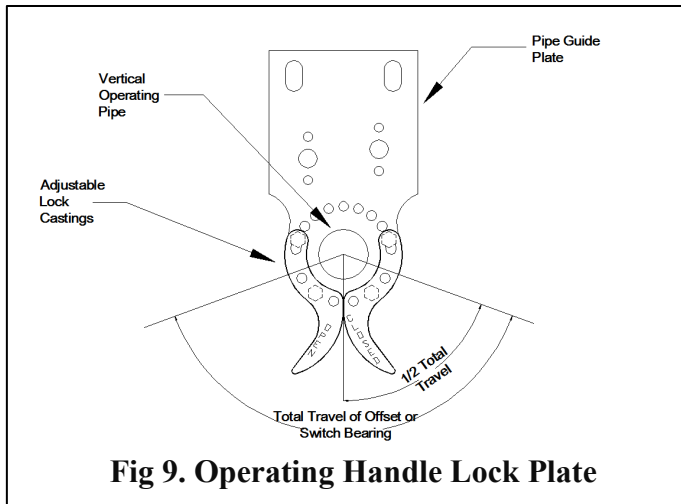

Fig 9. Operating Handle Lock Plate
3. The lock plate assembly (Fig. 9) consists of two castings, mounted on the pipe guide plate, which can be easily adjusted in an arc to provide the required rotation. These act as locks for the manual operating handle when it is dropped from the operating position. The handle must be raised to a horizontal position for operation.